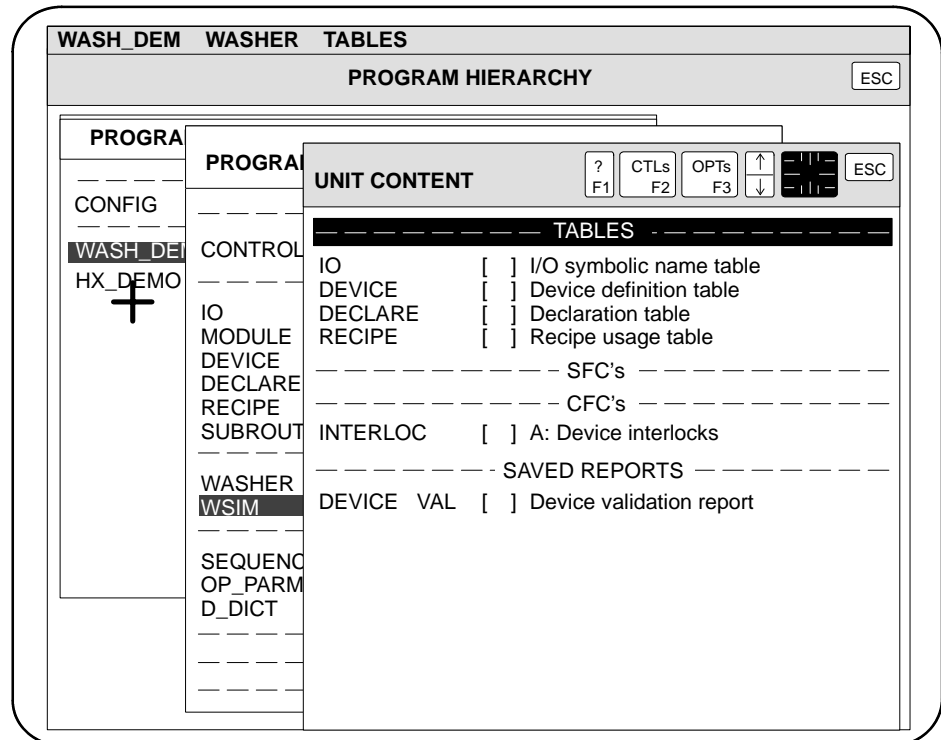

Figure 2-8 Selecting Another Program
1. Use the pointing device to position the cross-hair on the name of a unit or on the name of a program. See Figure 2-8.